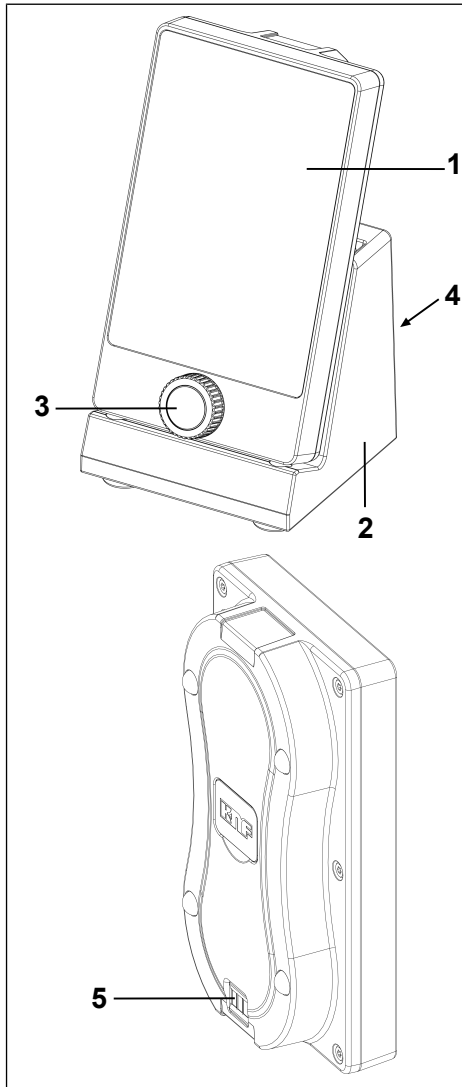

Fig.13: Vacuum controller
- a rotary knob (Fig. 13/3) and
- a touchscreen (Fig. 13/1).
Place the vacuum controller in the support for the vacuum controller (Fig. 13/2) with the underside facing down. An acoustic signal is emitted and the border around the battery symbol pulsates.